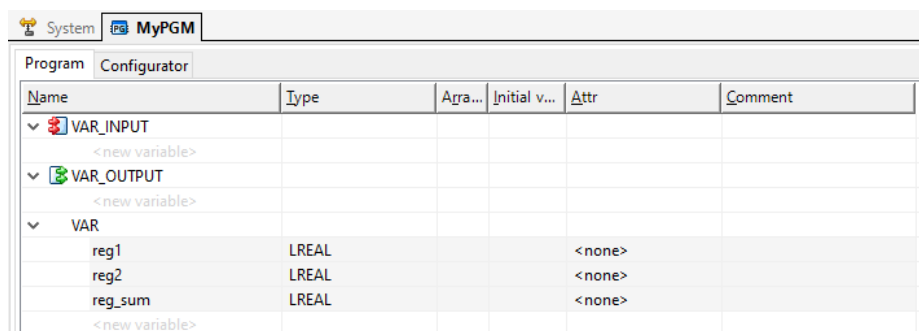

Figure 55: VAR list in the program CAT.
- Change to the **Program** tab. The created PLC data points show up in the VAR list as shown in Figure 55.